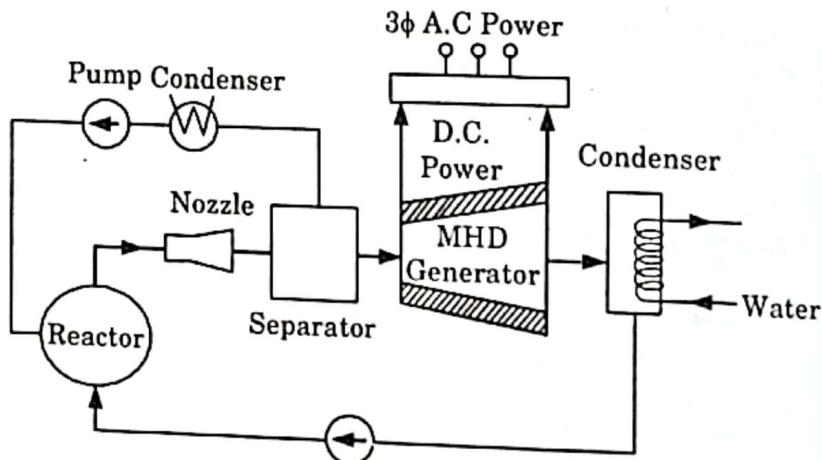

Fig. 3.8.3. Closed cycle liquid MHD generator.
- Fig. 3.8.3 shows the schematic diagram of closed cycle liquid metal MHD generator.